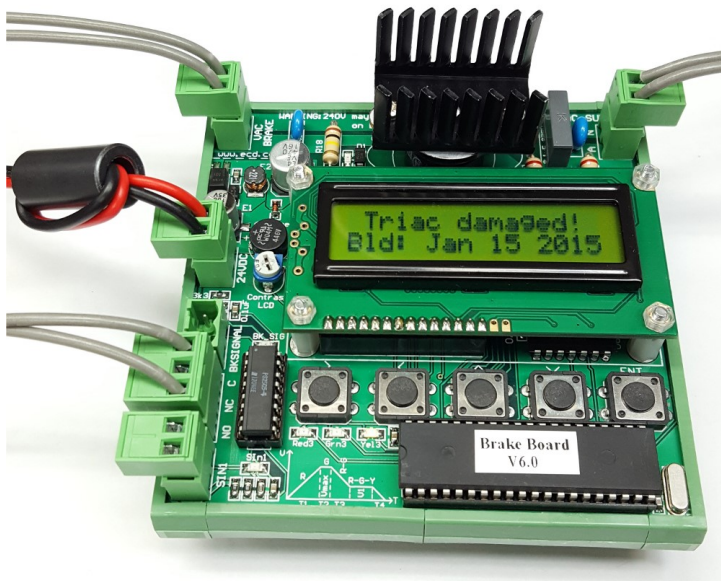

Figure 3
- Triac shorted. “Triac damaged!” will be displayed on the LCD. (Fault detected with Triac, Fig. 3).